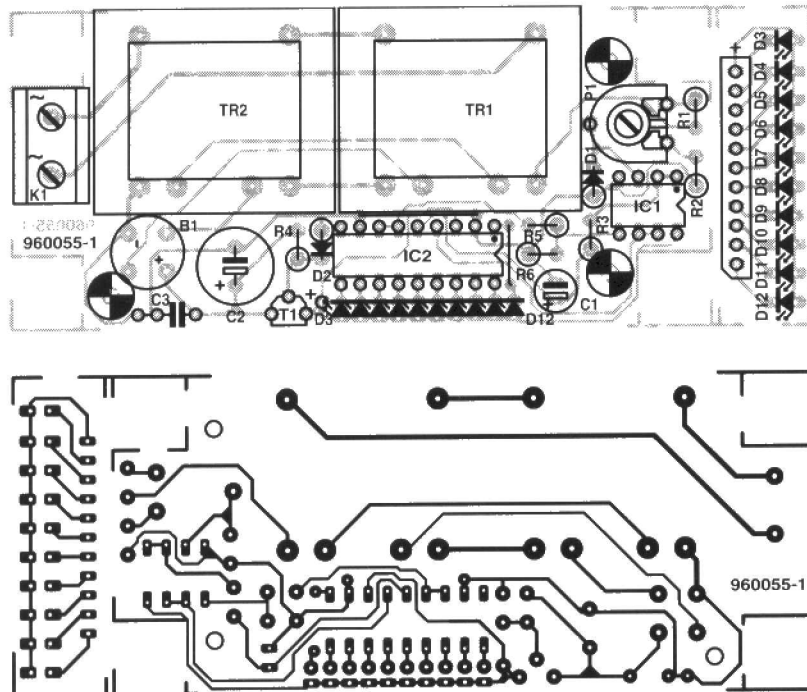

Figure 3. The printed-circuit board may be cut or snapped into two to enable the LEDs to be located away from the mother board.
The monitor is best built on the printed-circuit board shown in Figure 3. As usual, fit the wire bridge first, followed by the small components, medium-size parts and finishing with the two transformers. Fit all ICs in suitable sockets. In view of the relative density on the board and the vertically mounted resistors and diodes, make quite sure that no components accidentally touch other parts, which might cause short-circuits. Make sure that diodes and electrolytic capacitors are fitted with correct polarity.
There are two ways of fitting the LEDs: (1) normally on the mother board, or (2) on a separate part of the board after this has been cut off—see Figure 3. In the latter case, fit an 11-way single row pin header at the edge of the mother board as shown